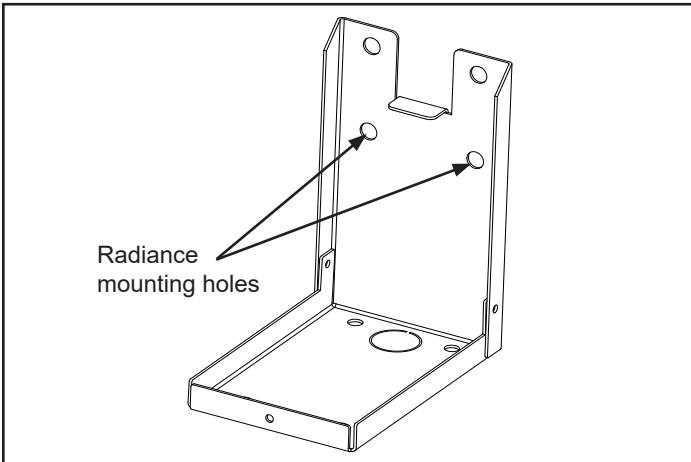

Figure 2
2. Remove phillips screw and star washer. Lift top cover to access the lower set of holes, Figure 2.